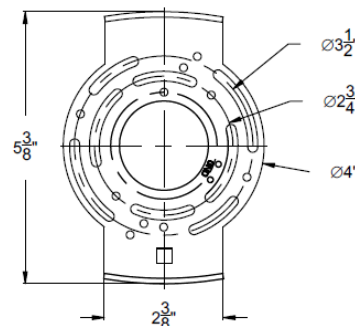

Fig. 2 Wiring
CONNECTING THE WIRES (Fig. 2)
6. Connect the driver input/output wires with junction box wires as shown (Fig. 2). Make sure that all wire connectors (A) are secure. If your outlet box has a green or bare copper ground wire, connect the fixture’s ground wire to it. Otherwise, connect the fixture’s ground wire directly to the back plate using the green screw provided. After wires are connected, tuck them carefully inside the junction box.